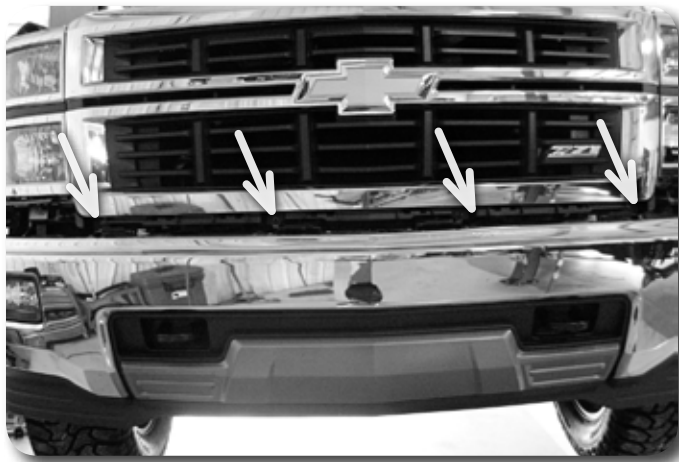

Figure 5
6. With the valance removed, the 4 lower grill mounting bolts are accessible. Remove these bolts and remove the grill from the vehicle. Figure 5